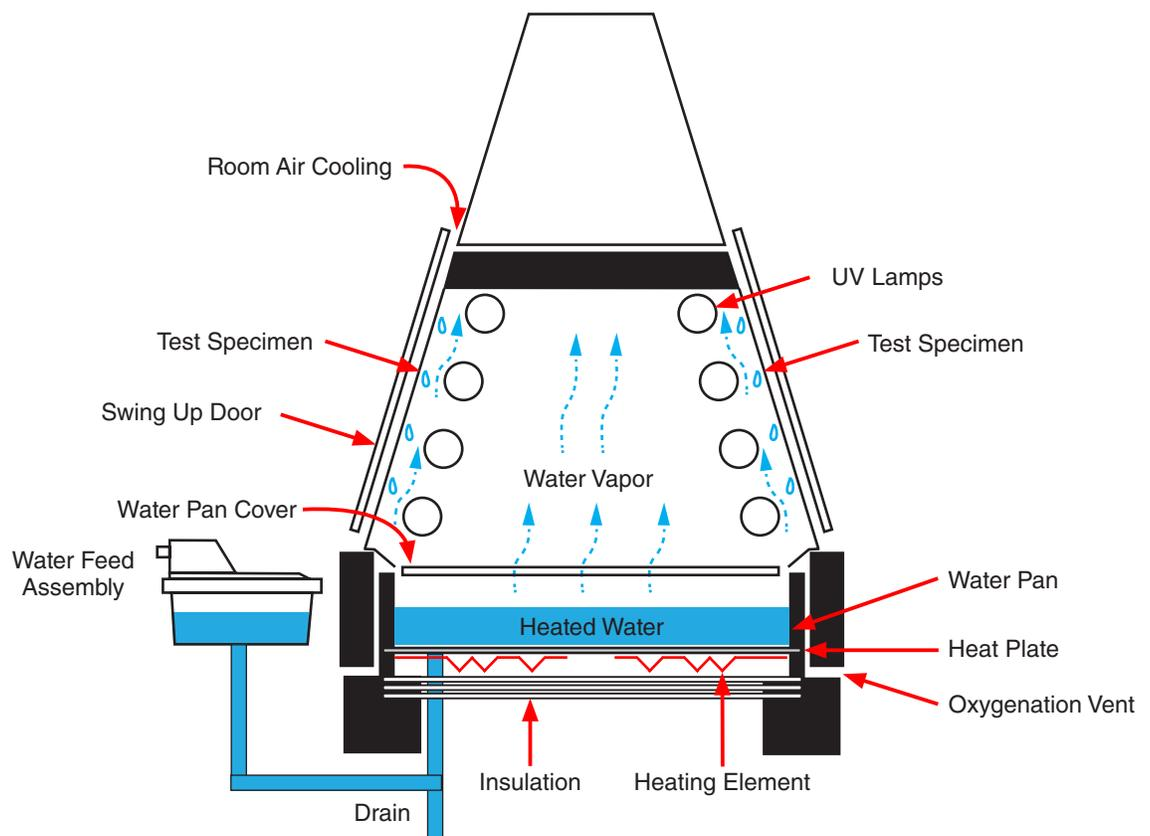

Figure 9.1: QUV condensation system schematic.
- Figure 9.1 shows the major components of the QUV condensation system.